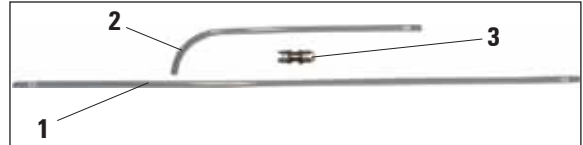
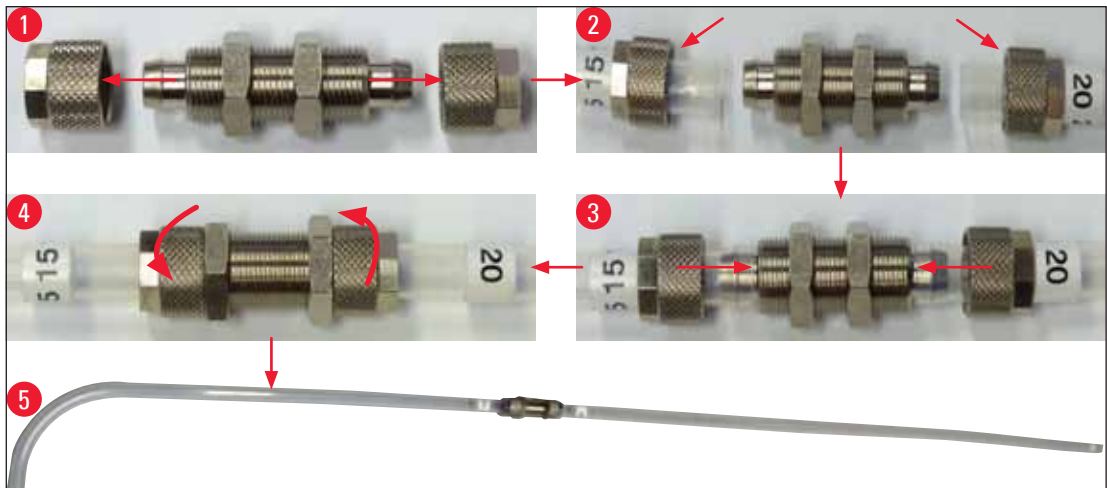

Fig. 88
Fig. 89
- 1 straight hose marked "20" (Fig. 88, 1)
- 1 angled hose marked "15" (Fig. 88, 2)
- 1 coupling (Fig. 88, 3)
1. Unscrew both nuts (Fig. 89, 1) from the coupling (Fig. 88, 3).
2. Push one of the nuts onto the hose marked "20" and the other one onto the straight end of the hose marked "15" (Fig. 89, 2).
3. Push the straight end of the hose marked "15" onto one of the nipples of the coupling and the hose marked "20" onto the opposite nipple. Take care that both hoses have been pushed onto both nipples as far as possible (Fig. 89, 3).
4. Finally, screw both nuts firmly onto the thread (Fig. 89, 4) of the coupling to secure the hoses (Fig. 89, 5).